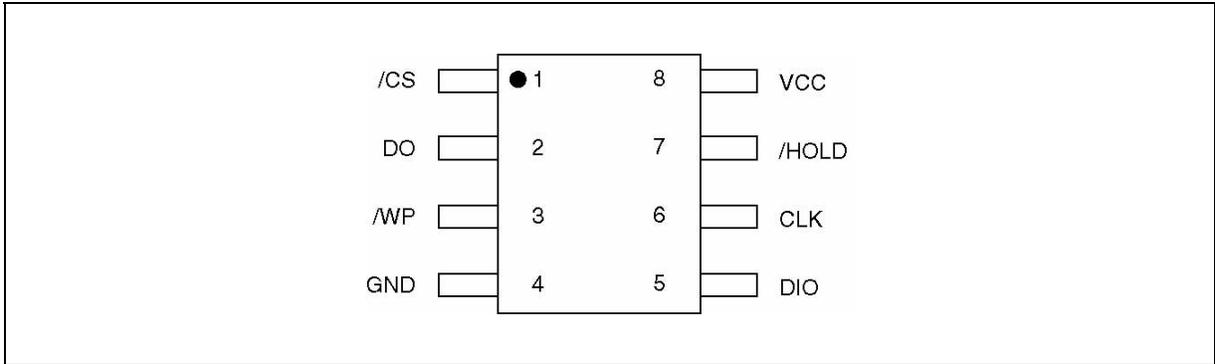
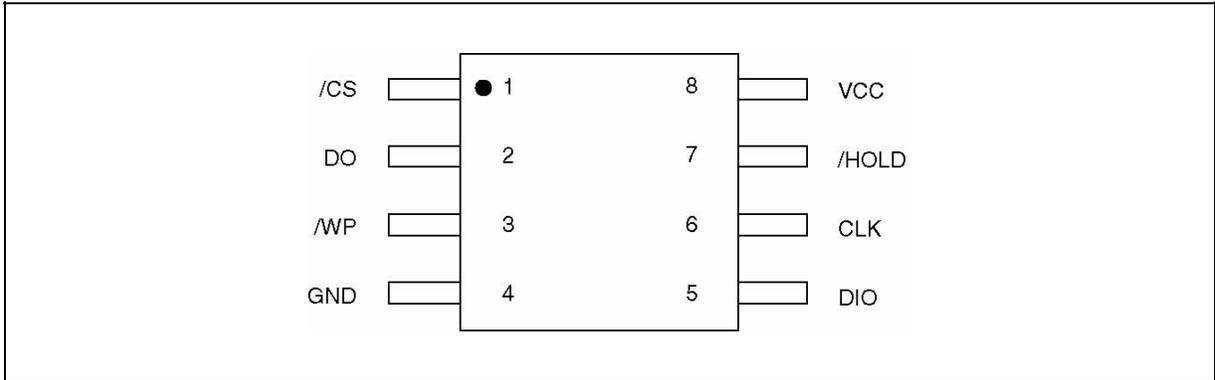
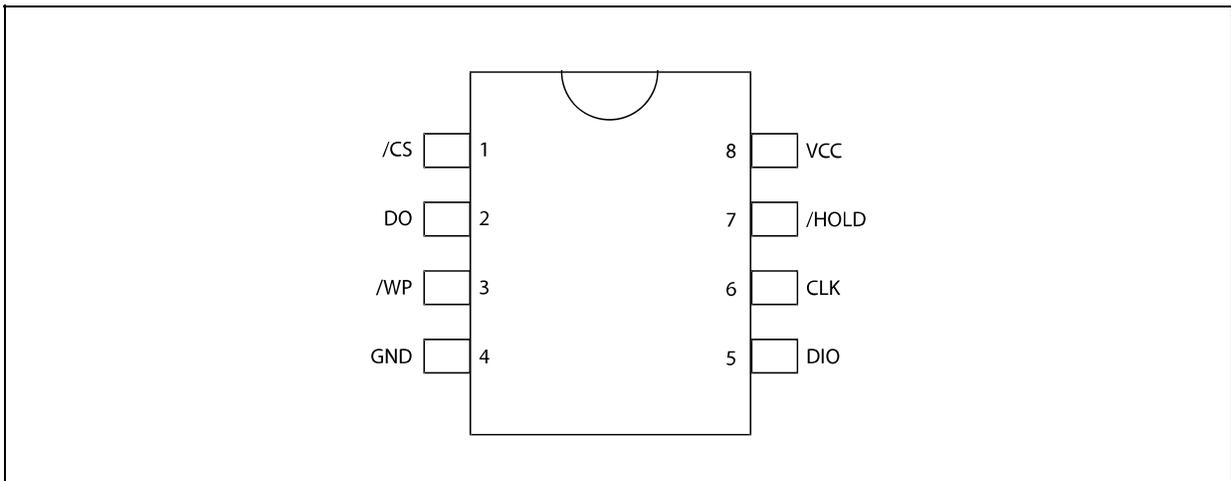

Figure 1a. W25X10A, W25X20A, W25X40A and W25X80A Pin Assignments, 8-pin SOIC (Package Code SN)
Figure 1b. W25X40A and W25X80A Pin Assignments, 8-pin SOIC (Package Code SS)
Figure 1c. W25X40A and W25X80A Pin Assignments, 8-pin PDIP (Package Code DA)
All parts are offered in an 8-pin plastic 150-mil width SOIC (package code SN)(1) as shown in figure 1a and the 8-pad 6x5-mm WSON (package code ZP) as shown in figure 1c, and 1d respectively. The W25X40A and W25X80A are offered in both the 8-pin plastic 208-mil width SOIC (package code SS) as shown in figure 1b and the 8-pin 300-mil DIP (package code DA). Package diagrams and dimensions are illustrated at the end of this datasheet.